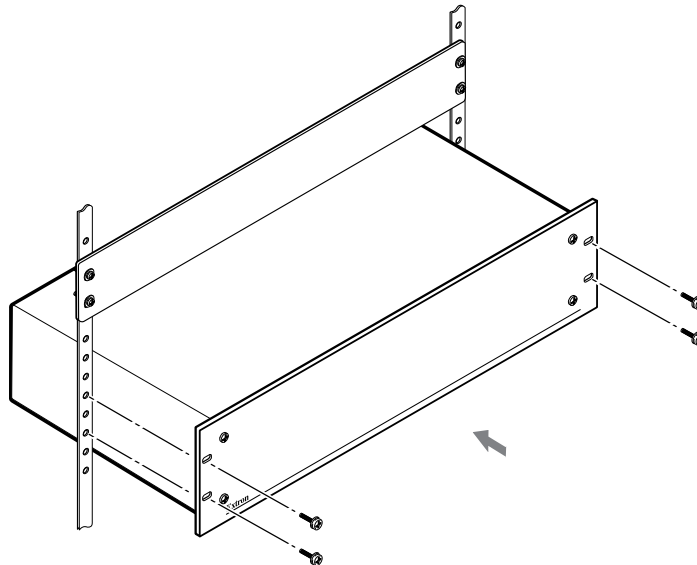

Figure 76. Installing the Switcher in a Rack
The following Underwriters Laboratories (UL) requirements pertain to the installation of the MPX matrix switcher into a wall or furniture (see figure 76).